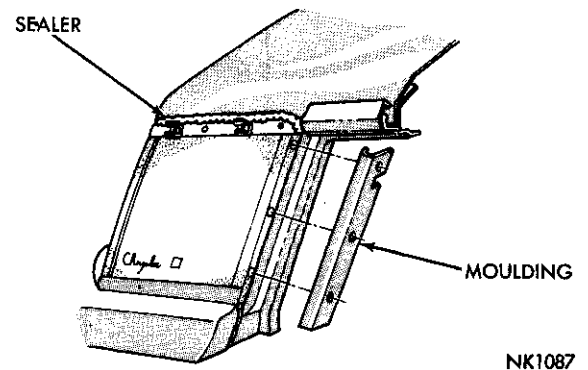

Fig. 182—Sealing Top Edge of Cover
(32) Apply a 1/4 inch bead of sealer to the top edge of the cover, at the retainer, and install the roof panel extension mouldings (Fig. 182).